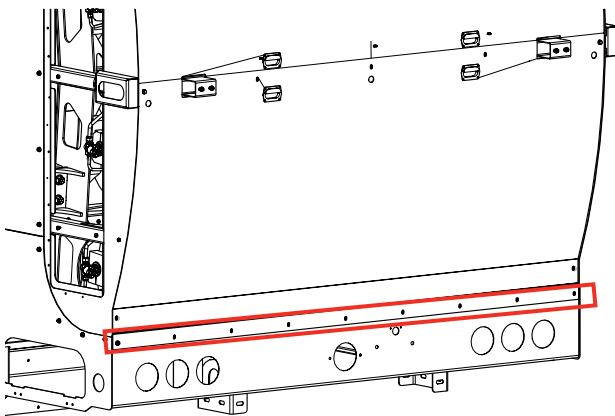

Figure 5-3
4. Remove and retain the (9) bottom fasteners holding bottom cover sheet in place (Figure 5-3).